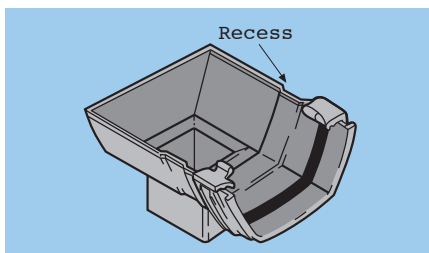

Fig.9b
- OR recess(es) (Fig.9b) which accept a standard support bracket